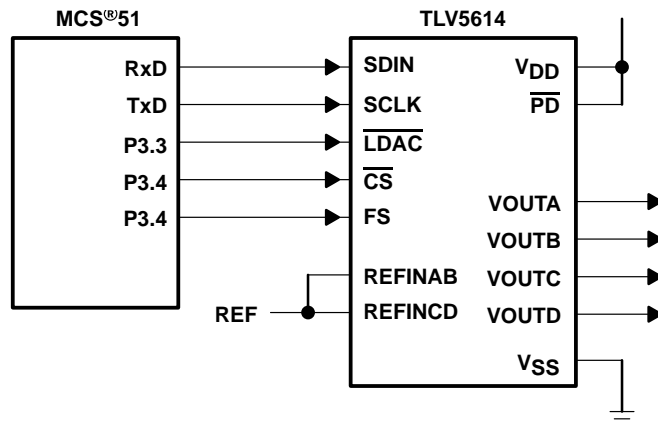

Figure 18. TLV5614 Interfaced with MCS[®]51
Figure 18 shows an example of how to connect the TLV5614 to an MCS[®]51 Microcontroller. The serial DAC input data and external control signals are sent via I/O Port 3 of the controller. The serial data is sent on the RxD line, with the serial clock output on the TxD line. Port 3 bits 3, 4, and 5 are configured as outputs to provide the DAC latch update ($\overline{\text{LDAC}}$), chip select ($\overline{\text{CS}}$) and frame sync (FS) signals for the TLV5614. The active low power down pin (PD) of the TLV5614 is pulled high to ensure that the DACs are enabled.